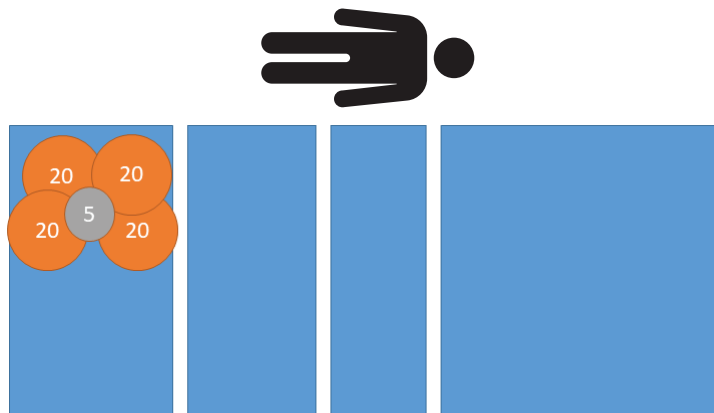

Figure 15 – Eccentricity test - 85 kg foot right
3. Using calibrated weights, place 85 kg at the foot, right of the product (Figure 15).